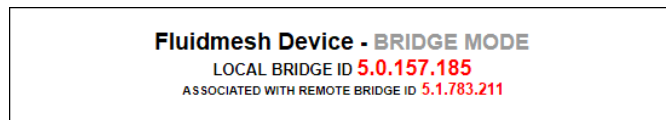

Figure 41. Configurator interface (Unit ID information)
- The unit ID number of the local unit is shown as the **LOCAL BRIDGE ID** (Figure 41 (page 114)).